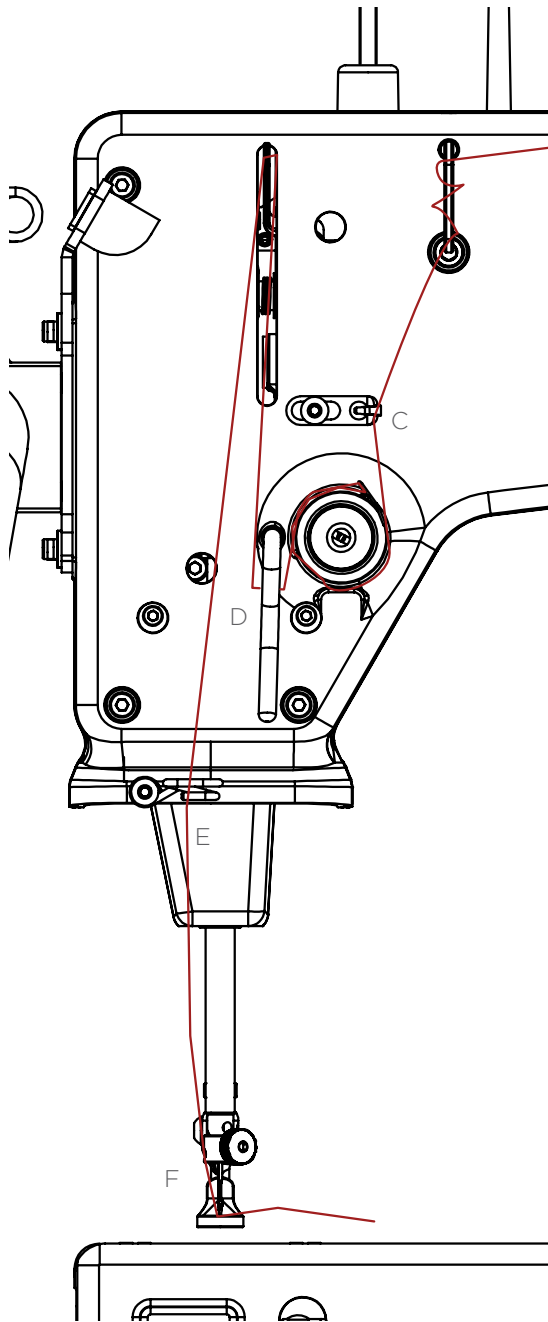

Figure 15
3. Thread continues through thread guide C, and then down to the tension assembly (see Figure 15).